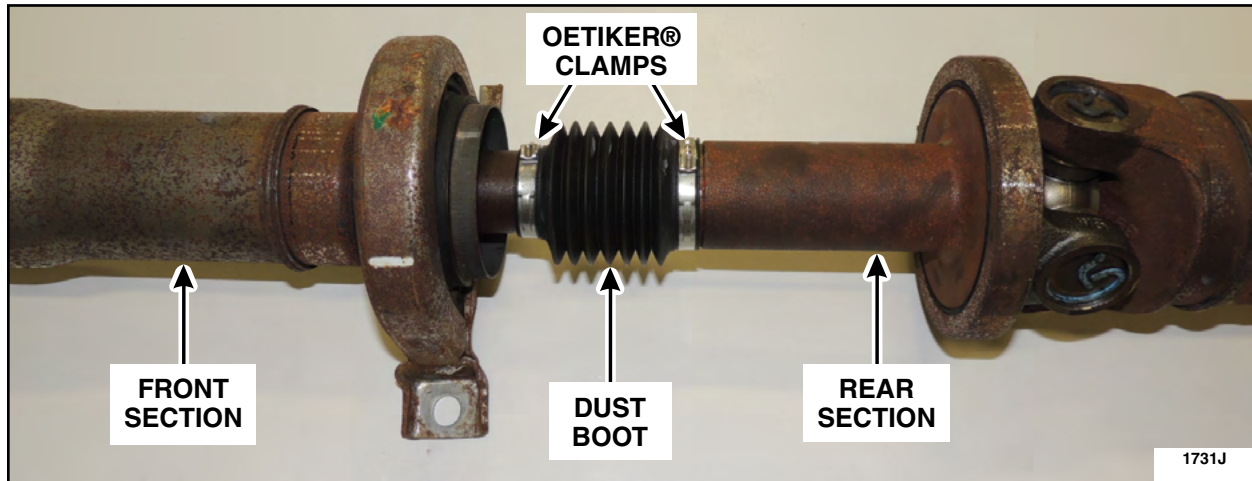

FIGURE 11
1. Separate the driveshaft front and rear sections at the driveshaft slip yoke. See Figure 11.
2. Install a *new* driveshaft front section onto the rear section. See Figures 11 and 12.